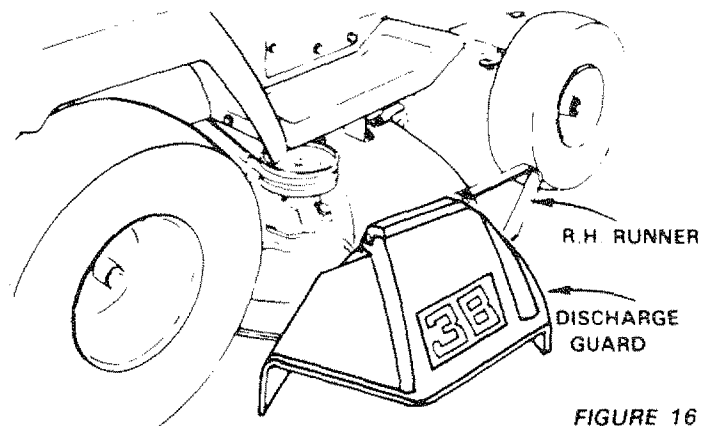

FIGURE 16
- Use the runner on the R.H. side as a guide; the blade cuts approximately an inch (2.54 cm) outside the runner (Fig. 16).
Your mower has a flip-up discharge guard (Fig. 16) for door or gate clearance when held in raised position.